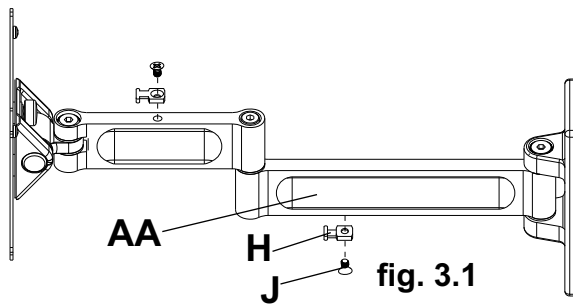
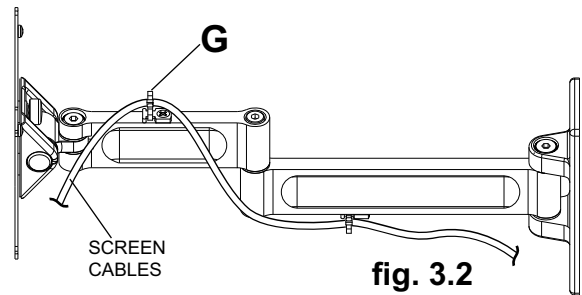

fig. 3.1
fig. 3.2
- 3** Attach cable tie anchor (H) to top or bottom of wall arm (AA) using screw (J) as shown in figure 3.1. Secure cables to wall arm (AA) using cable tie (G) as shown in figure 3.2.